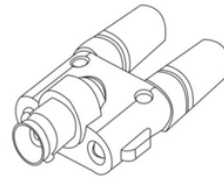

Figure 3 BNC-male-to-dual binding post
- 4) Connects the probe output to BNC-female- to-dual binding post (as shown in Figure 3), and plug into the two inputs of the digital multimeter.